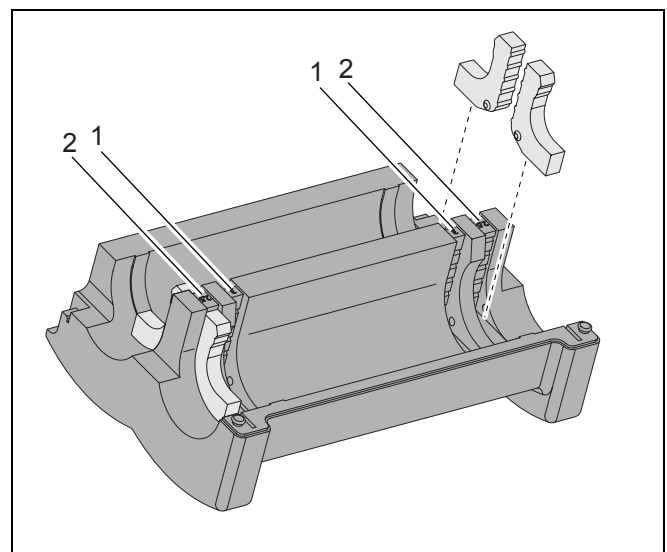

Fig. 10 Inner insulation
- For 2½" and 3" low loss header: install the inserts in the outer insulation. For a 2½" low loss header: install the reducing inserts in the outer recesses (fig. 10, item 2).
- For a 3" low loss header: install the reducing inserts in the inner grooves (fig. 10, item 1).